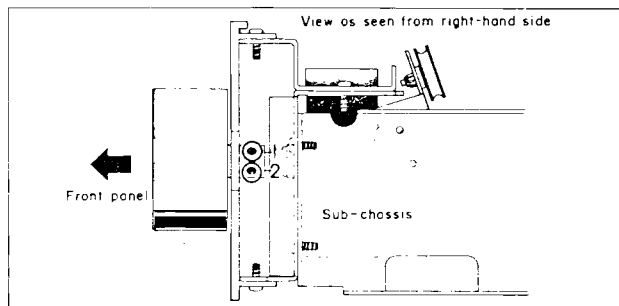

Fig. 1
- As in Fig. 1, use a 2mm diameter hexagonal wrench to loosen the screws (1) and (2) of the tuning knob from between the front panel and the sub-chassis. Then draw the knob out and remove.
- Remove screws (11) to (14) in Photo 1 and also screws (1) to (3) in Photo 2, and then draw the front panel out toward you gently.